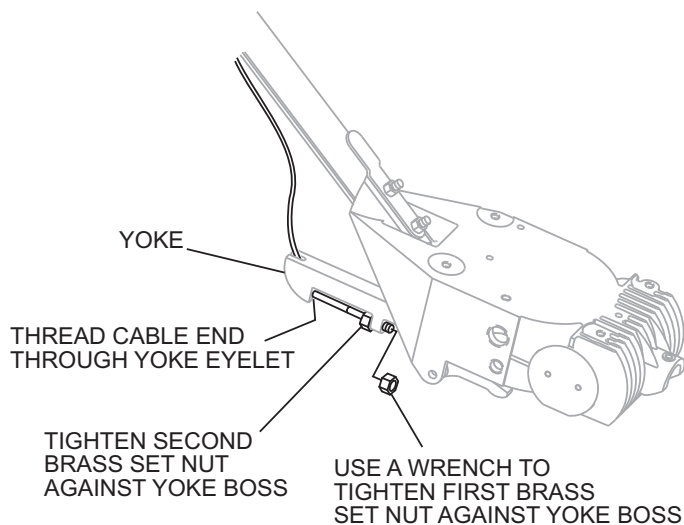

Figure 14. Cable Yoke Attachment
5. Insert the cable end through the yoke eyelet (Figure 14) Tighten the first brass set nut by hand to remove all the slack from the cable.